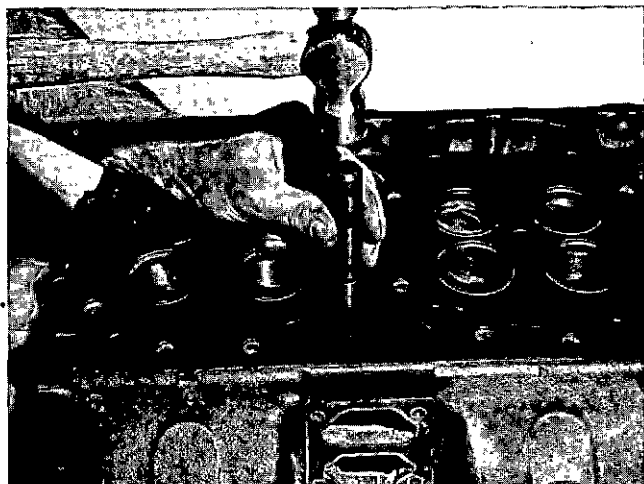

Fig. 2-1-11, V40220. Drive bushing into hole
9. Drive bushing into reamed hole with driver. Fig. 2-1-11. Bushing should protrude about 0.003 to 0.005 inch [0.0762 to 0.1270 mm].